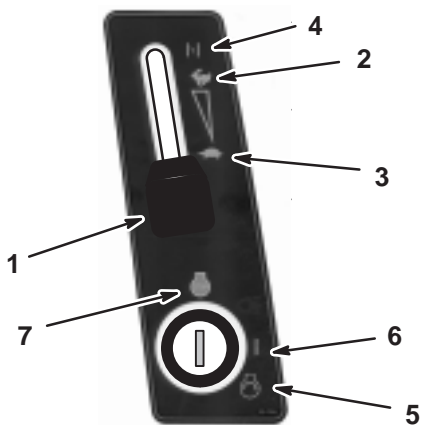

Figure 11
- Shift the throttle control lever to the Slow position (Fig. 11).
- Turn the ignition key clockwise and hold it in the Start position (Fig. 11). When the engine starts, release the key.
- After the engine starts, slowly shift the throttle control lever to Fast (Fig. 11).
- Move the throttle control lever to Slow (Fig. 11).
- Turn the ignition key to Off (Fig. 11).